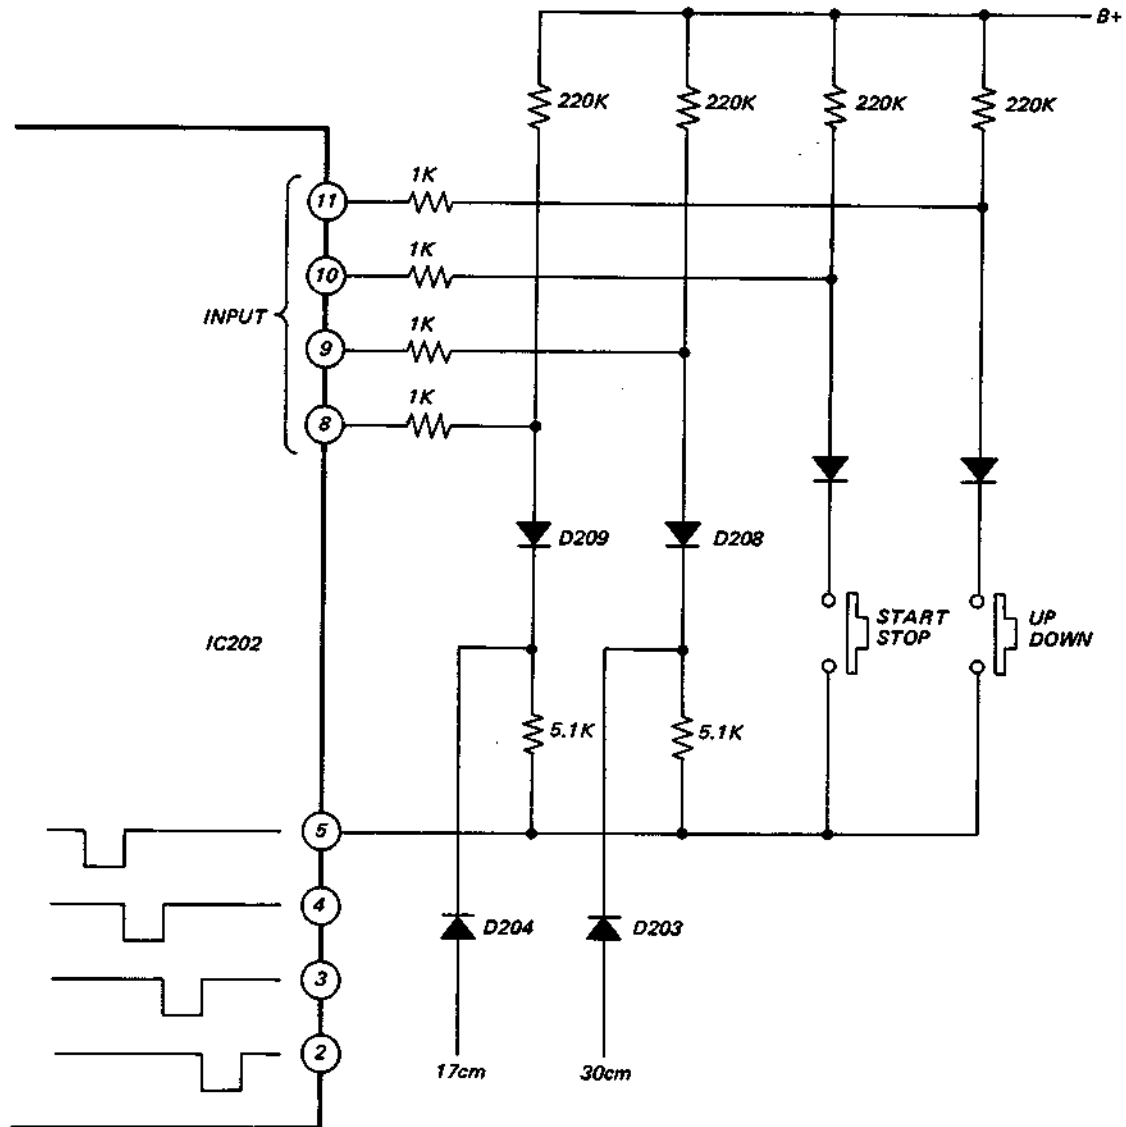

Fig. 7
When pin ⑤ is low, the four inputs are identified as shown in the figure 7. When no record is set, D204, 203 are on, and D208, 209 do not go on, so pins ⑧ and ⑨ are high. When a 30 cm record is set, D203, 204 go off, D208, D209 go on, and pins ⑧ and ⑨ both go low.
This identifies that it is a 30cm record. Input detection is performed in this way. Detection of the state is done by making pins ② - ⑤ low in order, and observing the states of pins ⑧ - ⑪ at that time. (Refer to Figure 7.)